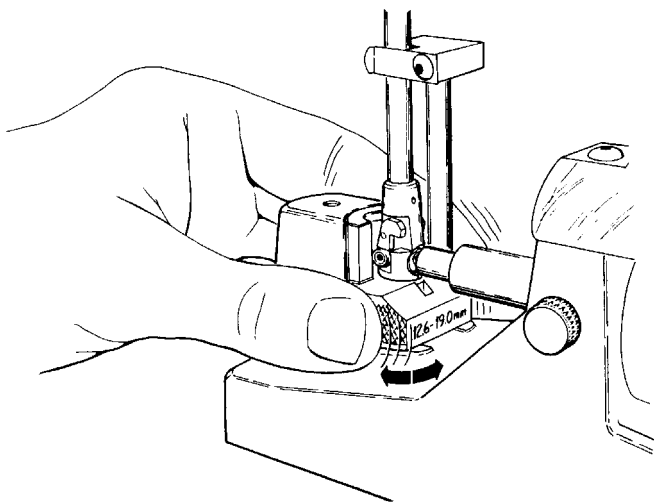

FIGURE 11
10. Rock the Nest in the horizontal plane (see Figure 11) until the Indicator Hand registers the minimum or "most minus" (-) reading.